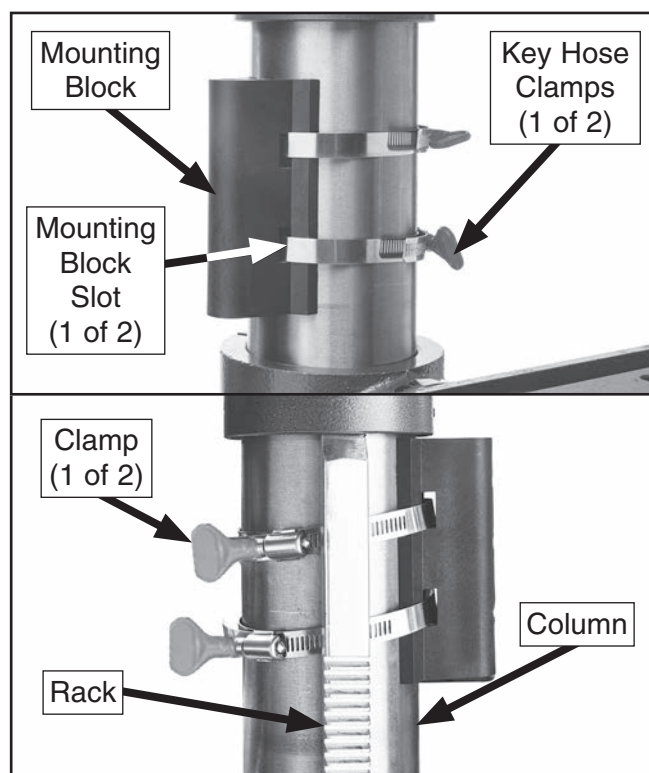

Figure 3. Mounting block attached on drill press column.
2. Feed clamp bands through slots in mounting block, then slide clamp bands underneath drill press rack (see **Figure 3**).
3. Position mounting block on drill press column (see **Figure 3**).
4. Insert clamp bands in shrouds and tighten until snug (see **Figure 3**).